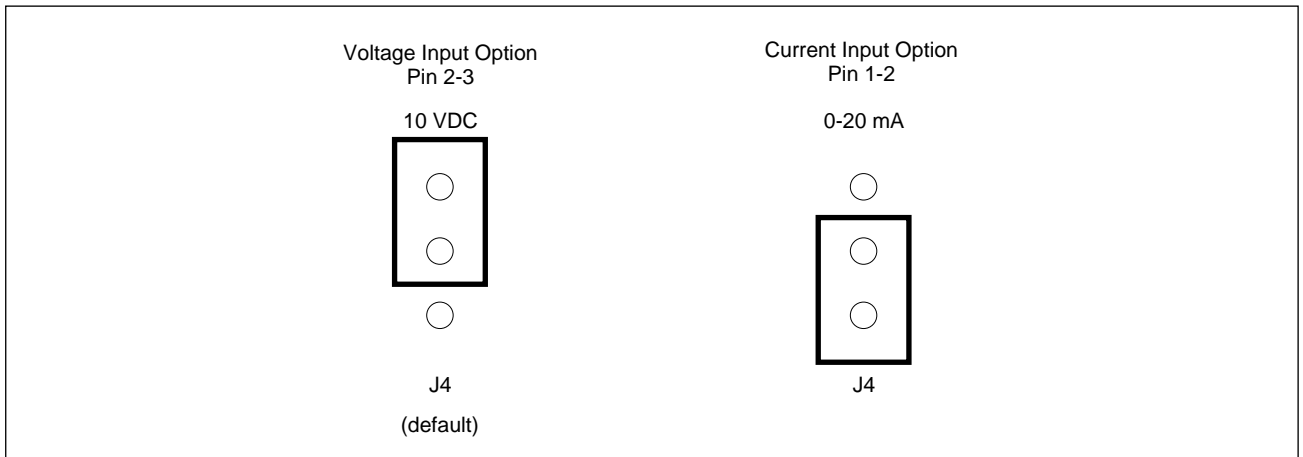

Figure 2.6 – Jumper J4 Settings for Analog Input Speed Reference
- Step 5. Locate pin 1 on jumper J4. Move the jumper to the desired setting as shown in figure 2.6.